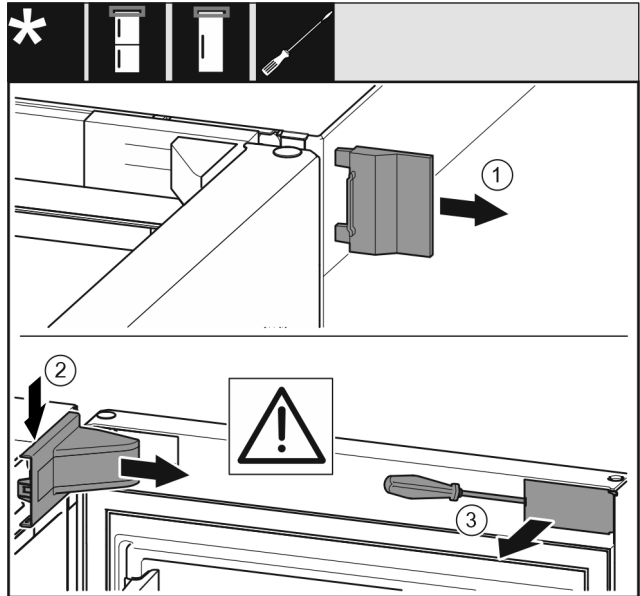

Fig. 6
- ▶ Remove the outer cover. *Fig. 6 (1)*
- ▶ Disengage and release the bearing bracket cover. Remove the bearing bracket cover. *Fig. 6 (2)*
- ▶ Unlatch the panel with a slotted screwdriver and swivel it to one side. *Fig. 6 (3)*